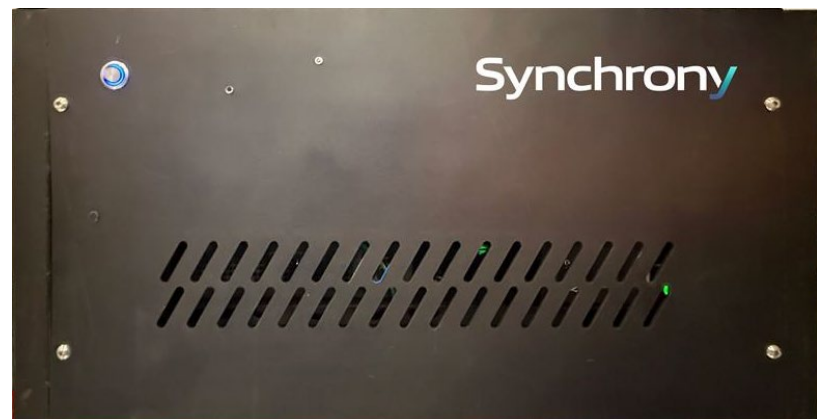

Figure 16. Synchrony Front Cover with Power Button
- Turn on the *Synchrony* system by pushing the power button (**Figure 16**) on the front cover. The blue light on the cover lights up, then powering on *Synchrony*.
Turn on the *Synchrony* system by pressing the power button on the front of the Synchrony Cabinet (**Figure 16**).
Key to Figure 16